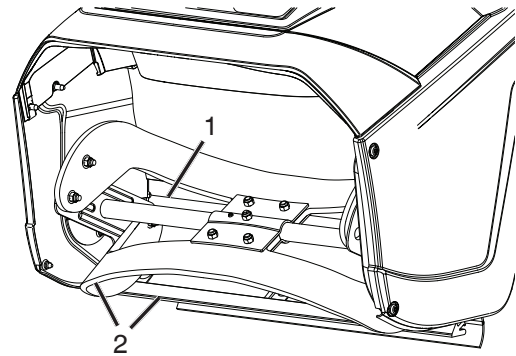

Figure 16
**IMPORTANT:** During initial operation there may be wear between the auger blades and the scraper bar. Maximum performance, both snow throwing and driving, occurs when there is zero clearance between these two parts (Figure 16).